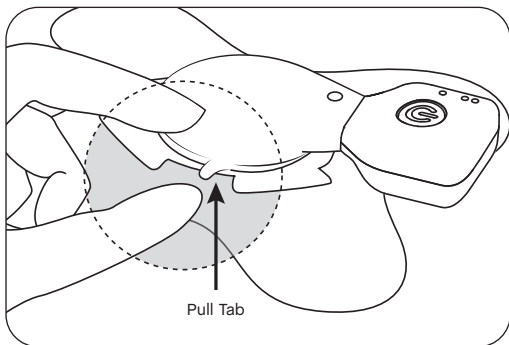

figure 12: Removing Applicator
- B. Remove the applicator from the **sam** Ultrasound Coupling Patch by prying from the pull tab on the side of the gel cup. This unlocks the cup from the applicator (See Figure 12).